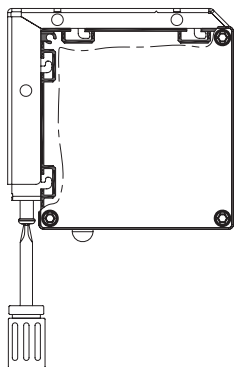

Fig. 11
6. To lock the screen firmly to the brackets, turn the locking screws clockwise. The screen will slowly move upwards against the bracket. Once this has been done on both sides, the screen is secured against accidental lifting out of the brackets. This is the only permissible method of installation! (Figs. 11 and 12)